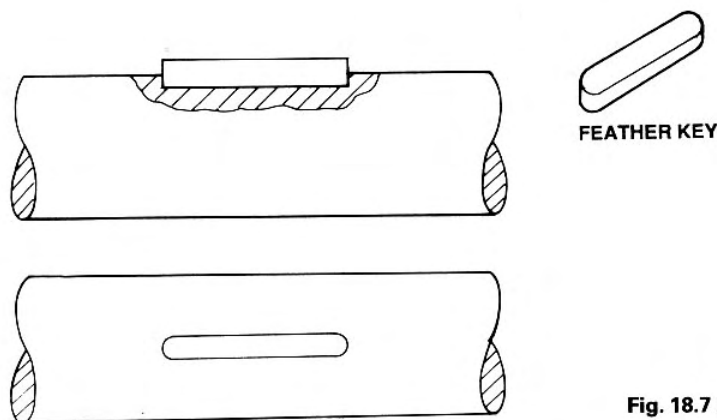

Fig. 18.7 Feather key.
**A feather key**, Fig. 18.7, is of rectangular section, usually with rounded ends. It is sunk for about half its depth into the shaft and its sides and ends fit snugly